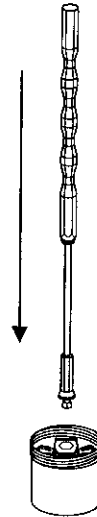

Figure 3: Press the valve holder handle into the valve holder.
2. With the circulating nurse holding the container, press the valve holder handle into the valve holder as shown in **Figure 3**, and remove the valve from the container.